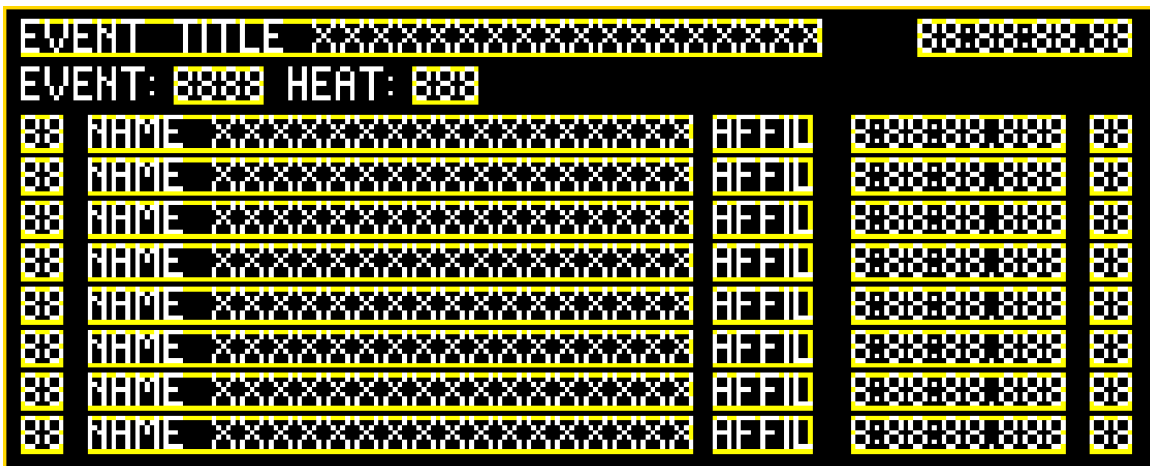

Figure 63: Presentation with FinishLynx Data Fields
6. Click and drag the desired data fields onto the presentation. Arrange the fields as shown in **Figure 63**.
In the example presentation shown in **Figure 63**, only the running time comes from the "FinishLynx Capture-Running Time" folder; every other data field comes from the "FinishLynx Capture-Results" folder. Note that "EVENT:" and "HEAT:" are not data fields; these are regular text boxes set to the same font and size to match the data fields.